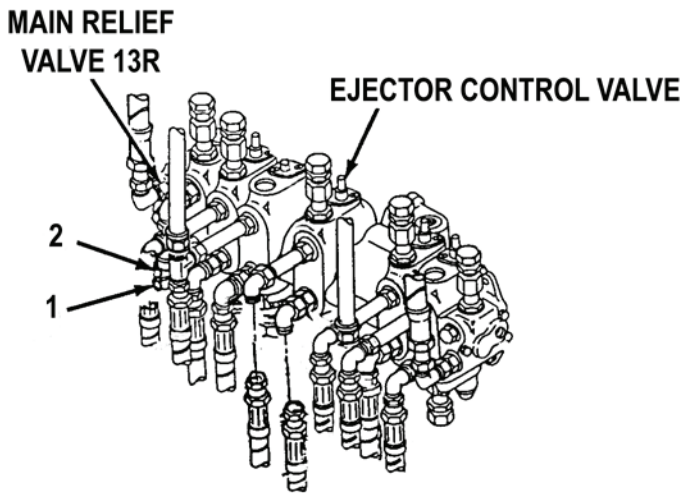

Figure 6. DCV Bank
- Loosen jam nut (Figure 6, item 2) on main relief valve 13R.
- While reading transducer T3 hydraulic pressure on the HDC display (Figure 7, item 1), rotate adjusting screw (Figure 6, item 1) clockwise to increase pressure; counterclockwise to decrease pressure, until correct pressure is indicated. Tighten jam nut (Figure 6, item 2).